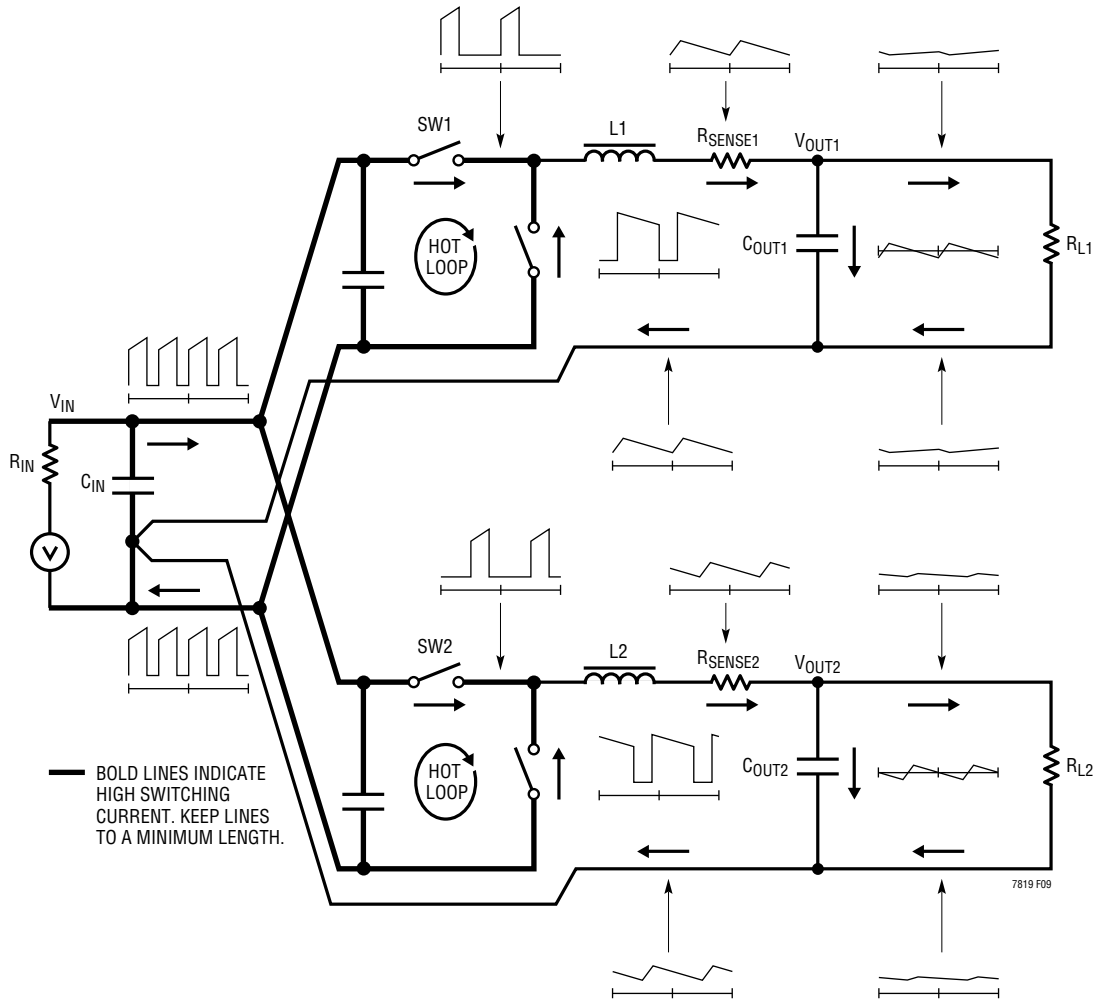

Figure 8. Branch Current Waveforms for Bucks
When laying out the printed circuit board, the following checklist should be used to ensure proper operation of the IC. Figure 8 illustrates the current waveforms present in the various branches of the synchronous regulators operating in the continuous mode. Check the following in your layout:
2. Are the signal and power grounds kept separate? The combined IC ground pin and the ground return of $C_{INTV_{CC}}$ must return to the combined C_{OUT} (-) terminals. The area of the "hot loop" formed by the top N-channel MOSFET, bottom N-channel MOSFET and the high-frequency (ceramic) input capacitors, as shown in Figure 8, should be minimized with short leads, planar connections, and multiple paralleled vias where needed. The output capacitor (-) terminals should be connected as close as possible to the (-) terminals of the input capacitor.